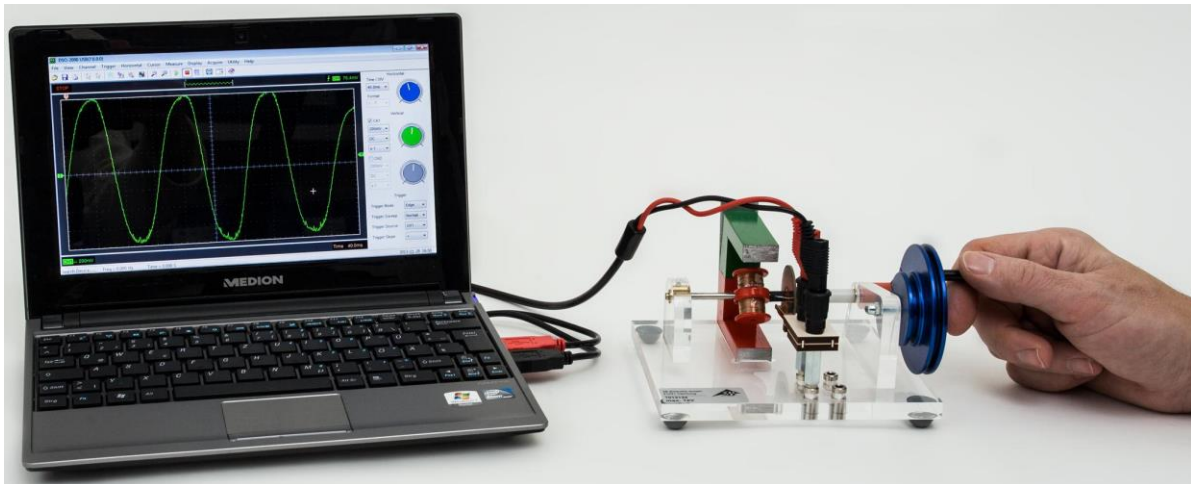

Fig. 5 Operation as an AC generator with a USB oscilloscope
- Insert the current collectors into the left-hand pair of sockets of the terminal panel on the base plate (see Fig. 5).